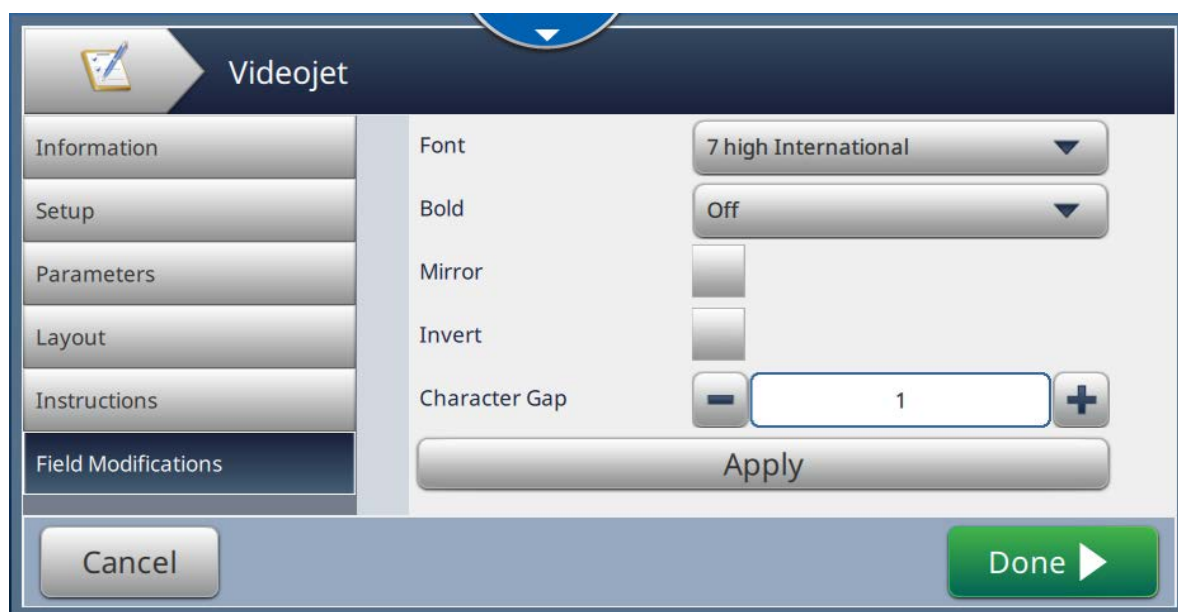

Figure 5-18: Field Modifications Screen
3. Navigate to *Job Settings > Field Modifications* as shown in Figure 5-18.